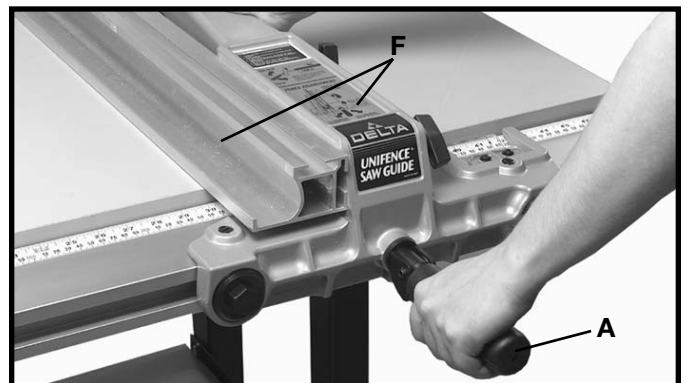

Fig. 45
6. To remove the fence and fence body assembly (F) Fig. 45, from the guide rail, lift up on fence clamping lever (A) and turn lever (A) counterclockwise to the left indent position. The fence assembly (F) can then be pulled straight off the guide rail and removed.